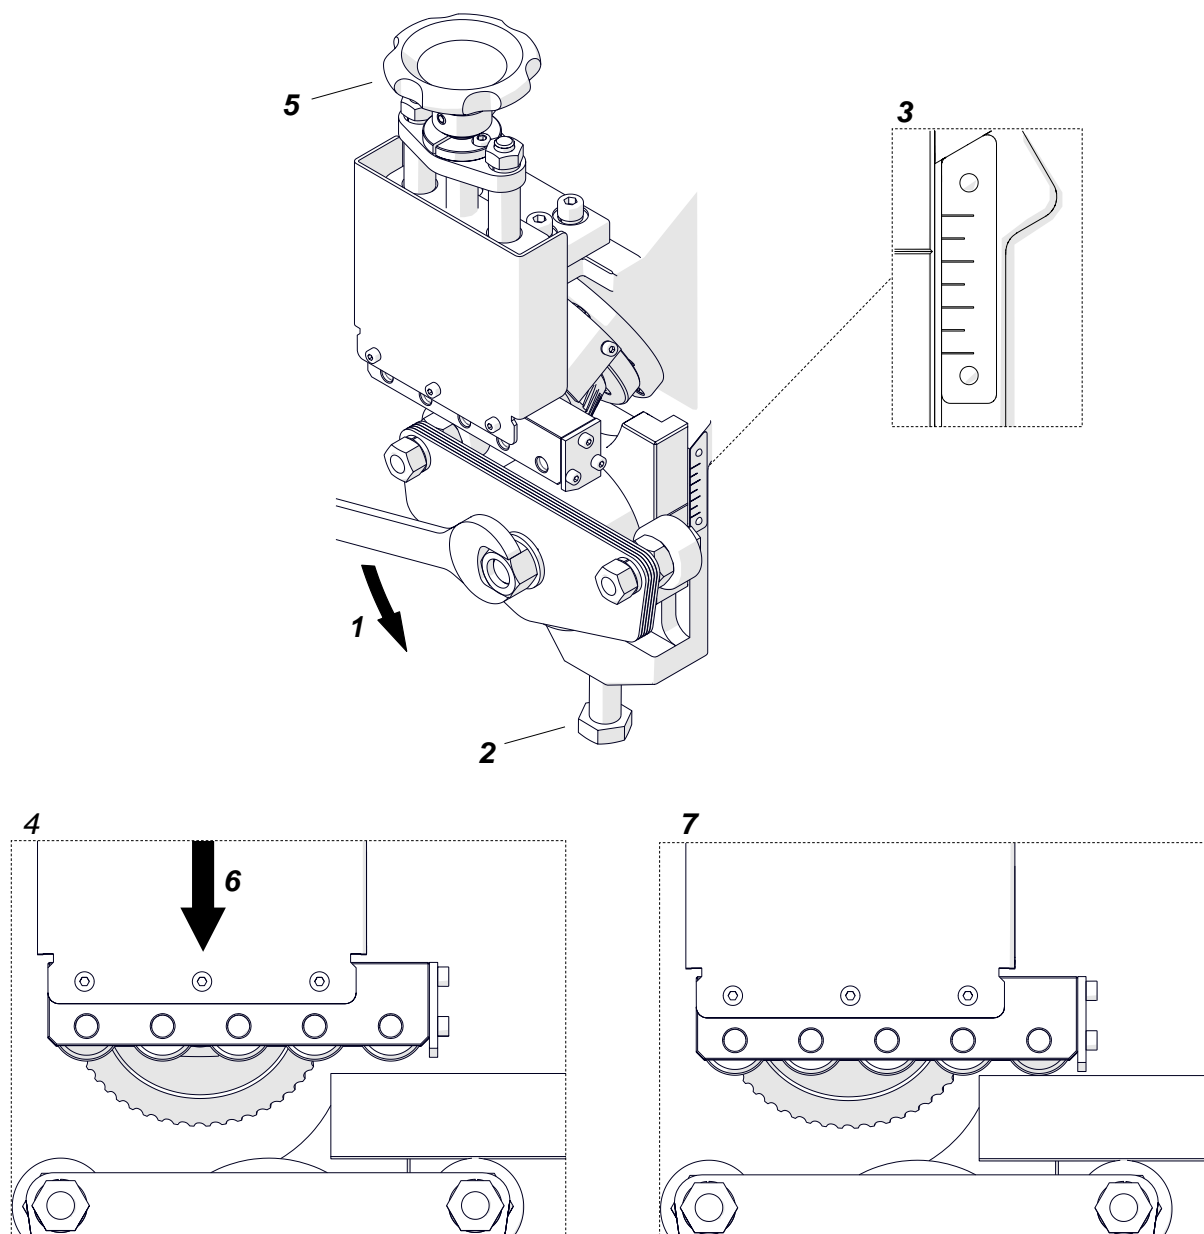

Fig. 2. Adjusting the bevel height and the clamp
Use the 24 mm flat wrench to loosen the nut (1, Fig. 2). Rotate the bolt (2) so that the scale is set to the value of the plate thickness (3), and then tighten the nut. Next, put the plate on the support roller (4), and then use the knob (5) so that the clamp rollers are on the plate (6, 7).